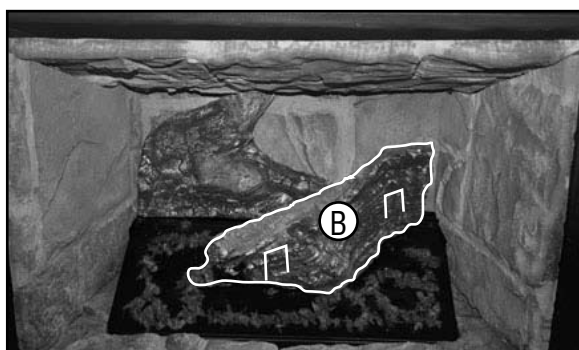

Figure 23
3. Place center log (B) on supports towards bottom left and top right of log (B). See **Figure 23**.